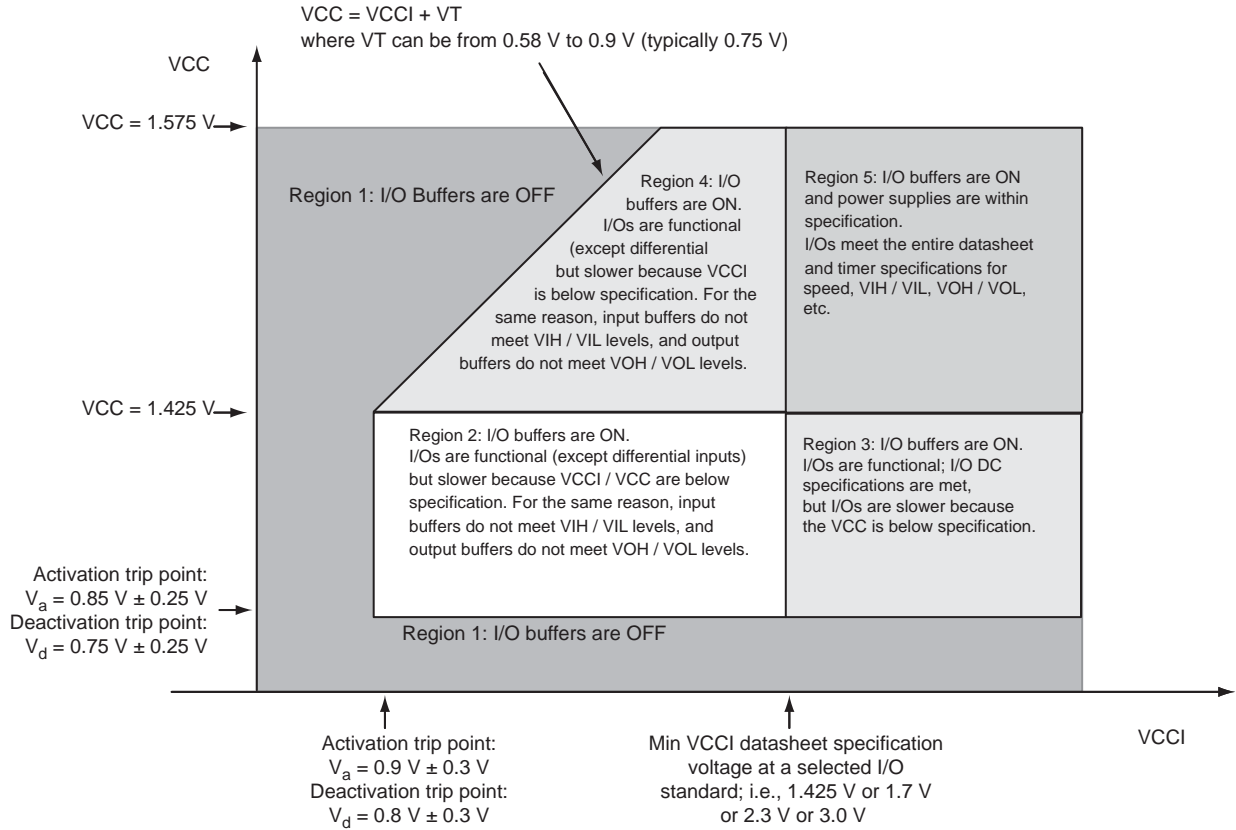

Figure 2-1 • I/O State as a Function of VCCI and VCC Voltage Levels
Sophisticated power-up management circuitry is designed into every ProASIC®3 device. These circuits ensure easy transition from the powered-off state to the powered-up state of the device. The many different supplies can power up in any sequence with minimized current spikes or surges. In addition, the I/O will be in a known state through the power-up sequence. The basic principle is shown in Figure 2-1 on page 2-4.
1. VCC and VCCI are above the minimum specified trip points (Figure 2-1 on page 2-4).
Actel recommends using monotonic power supplies or voltage regulators to ensure proper power-up behavior. Power ramp-up should be monotonic at least until VCC and VCCPLLX exceed brownout activation levels. The  $V_{CC}$  activation level is specified as 1.1 V worst-case (see Figure 2-1 on page 2-4 for more details).